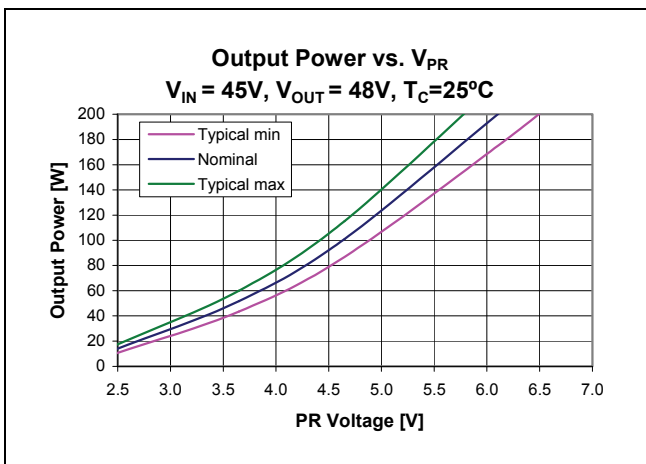

Figure 21 – Output Power vs. V_{PR} ; $V_{IN}=45V$, $V_{OUT}=48V$, $T_{CASE}=25^{\circ}C$
Control node (PR) is the input to the control node which determines the powertrain timing and ultimately the module output power (Figure 21). An internal 0.5mA current sink is always active. The bi-directional buffer between PR and the control node has two states. In normal operation, PR will be above the 0.79V switching threshold, and will drive the control node through the buffer. An internal 7.4V clamp determines the maximum output power that can be requested of the modulator.